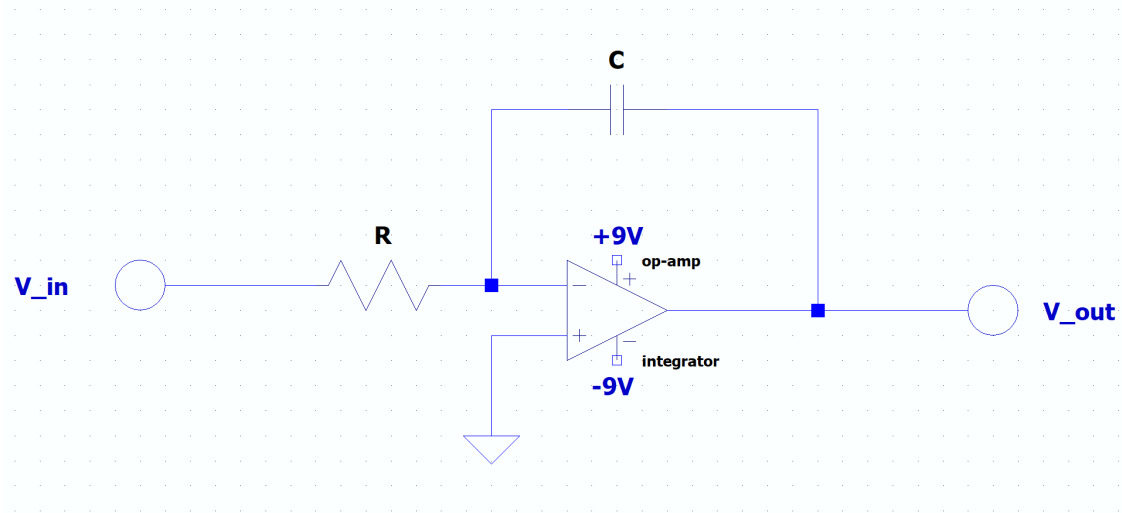

Figure 3: Integrating circuit
Figure 3 shows how an op-amp is configured to perform integration. To show circuit performance, choose either a capacitor of 0.01 or $0.1\mu\text{F}$ and a resistor of either $0.1\text{k}\Omega$, $1\text{k}\Omega$ or $10\text{k}\Omega$. Compute the expected time constant (RC) for the chosen combination. Demonstrate the